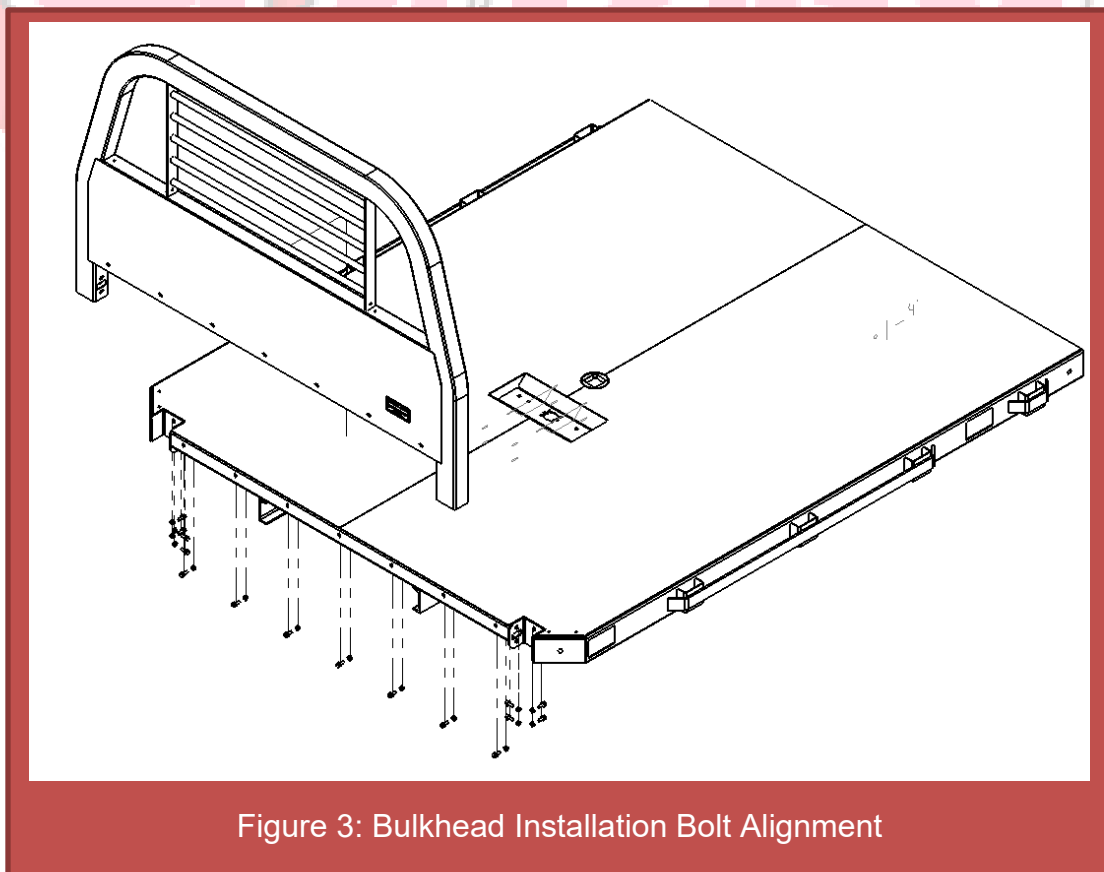

Figure 3: Bulkhead Installation Bolt Alignment
- 3) Refer to Figure 3 for Bulkhead installation bolt alignment.
- a) Fastener hardware shown in Figure 3 include (15x) 3/8-16 x 1 Grade 5 Flange Bolts (1511135) and (15x) 3/8-16 Grade 5 Flange Nuts (1540531).